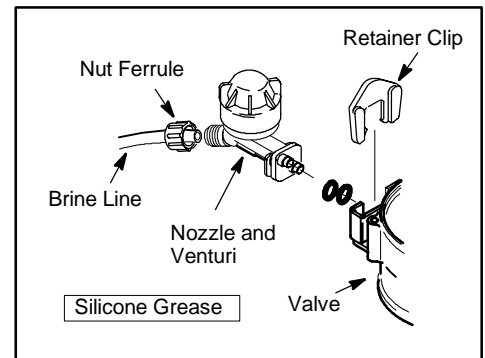

Figure 5
9. Loosen nut ferrule on the end of the nozzle and remove brine line. **Figure 5.**